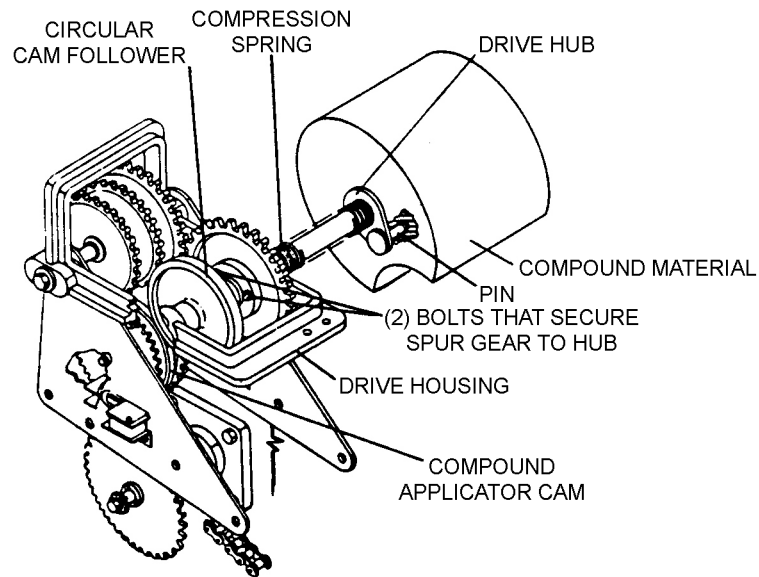

Figure 1
5. Loosen the two bolts on the compound applicator shaft that attach the spur gear to the drive hub. This will allow the applicator shaft to rotate independently of the gear train. See Figure 1.
9. Tighten the two bolts that lock the spur gear to the hub. Refer to *Figure 1*.
10. Allow the spring tension to pivot the compound wheel against the buffing wheel. The forward portion of the compound wheel should just barely touch the buffing wheel when the circular cam follower is in the center of the low dwell of the compound applicator cam. The compound wheel must move away from the buffing wheel when the circular cam follower encounters the high level of the compound applicator cam. To readjust, loosen the two bolts that lock the spur gear to the hub. Rotate the applicator shaft and buffing wheel in the appropriate direction. Tighten the two bolts. Refer to *Figure 1*.